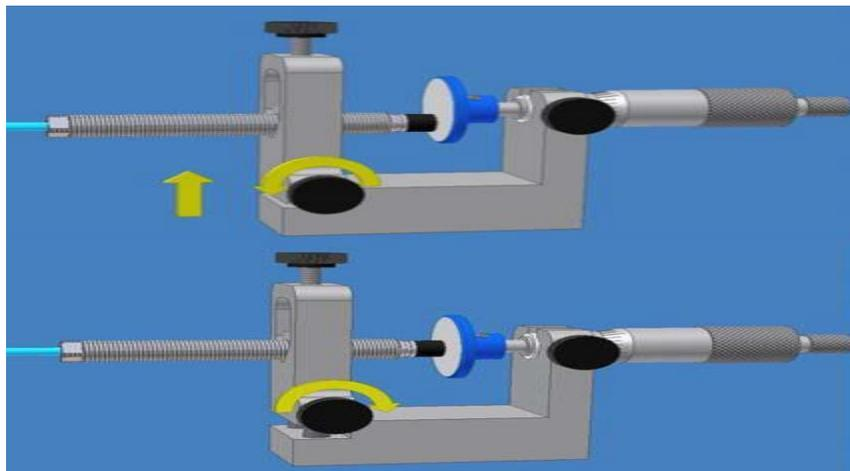

Figure 2-7: 8mm Probe Adjusted to Centered Position
5. Set the probe/target alignment by adjusting the V Probe Mount such that the probe and target centerlines align (see Figure 2-7).